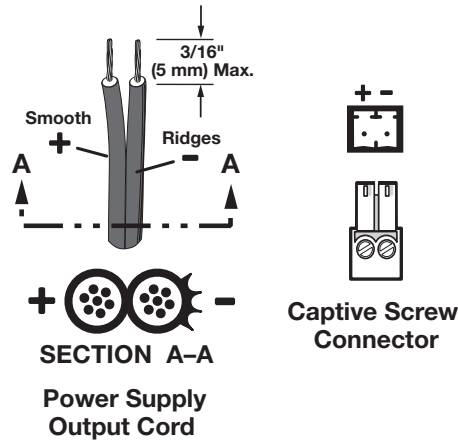

Figure 9. Power Connector Wiring
Figure 9 shows how to wire the connector.
- Power supply voltage polarity is critical. Incorrect voltage polarity can damage the power supply and the unit. The ridges on the side of the cord (see figure 9 on previous page) identify the power cord negative lead.